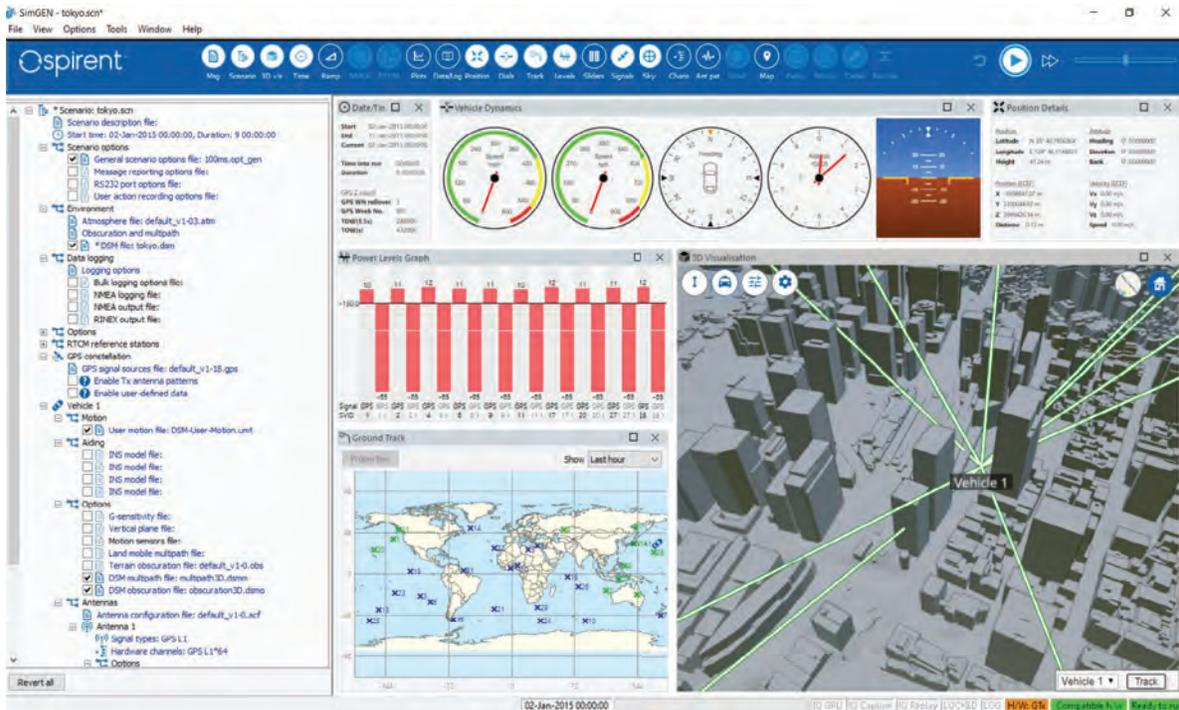

Figure 3: SimGEN scenario definition and simulation control software GUI
- Figure 3: SimGEN scenario definition and simulation control software GUI 6